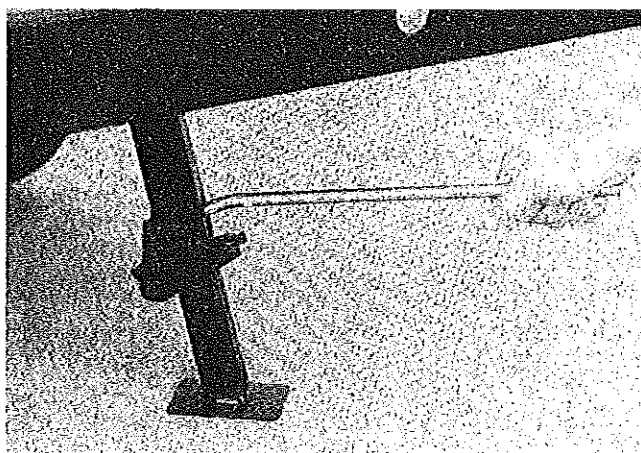

FIGURE 9
15. Remove the stabilizer jack handle from the recommended storage location within the access door. Making sure the handle is inserted through the rear hole, apply downward pressure to extend the inner legs of the stabilizer jacks to stabilize the trailer. See Figure 9. Remove jack handle and stow.